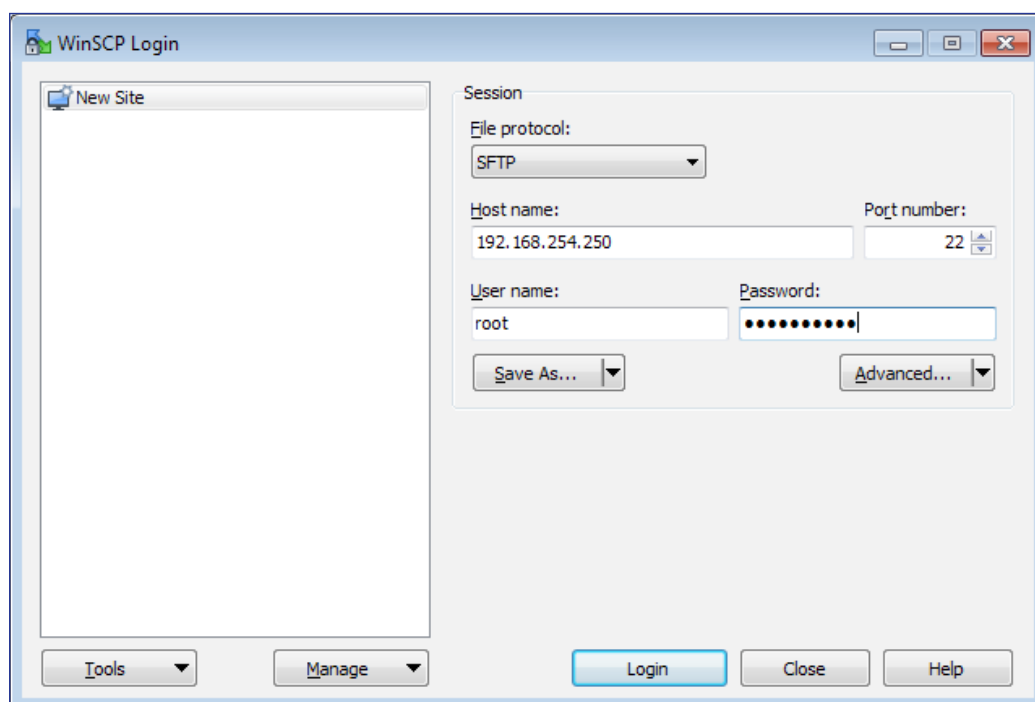

Figure 166. WinSCP Login Screen
2. Open WinSCP and create a connection with the following parameters (see figure 166):